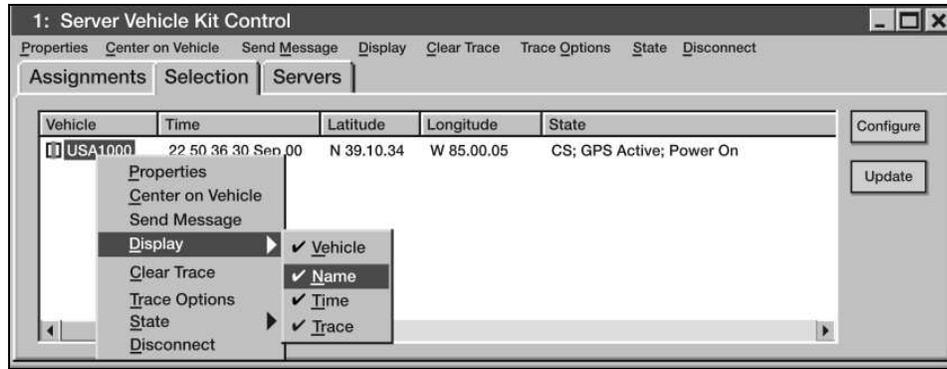

Figure 3-45. Display Vehicles Name
- (e) Hiding/Show and individual vehicle's name (see Figure 3-45).